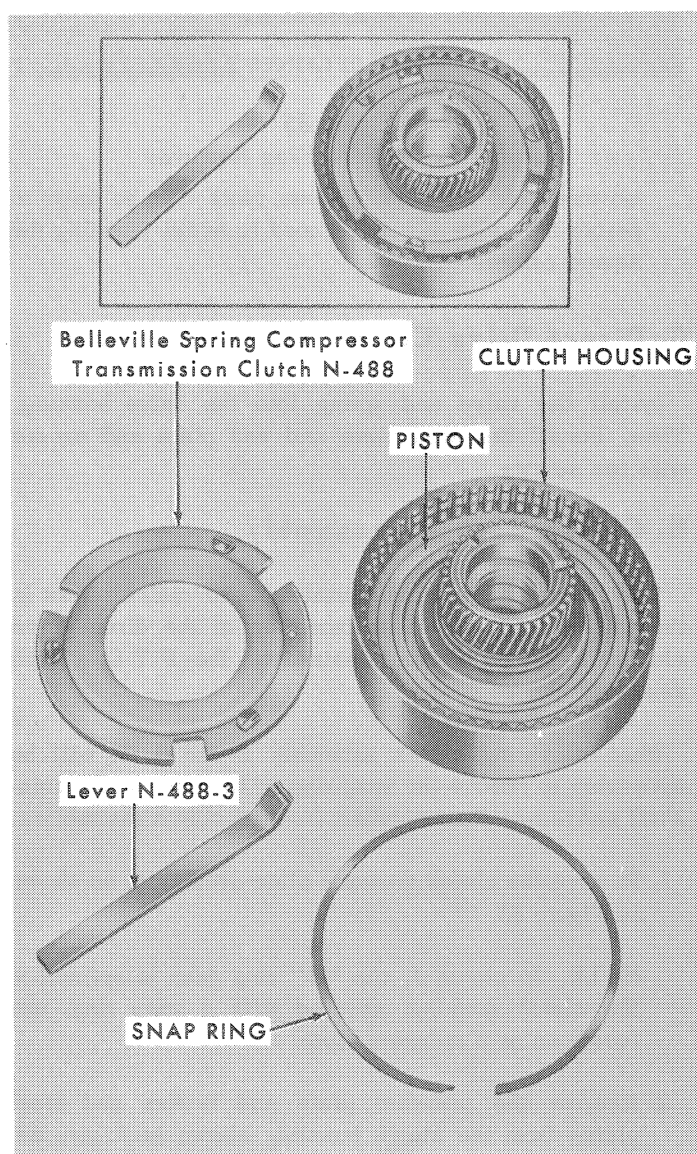

Figure 89
2. Position the Spring Compressor, N-488, in the clutch housing, as shown in the Insert, Figure 89, and install the snap ring. Make sure the snap ring ends are positioned away from the slots in the compressor.